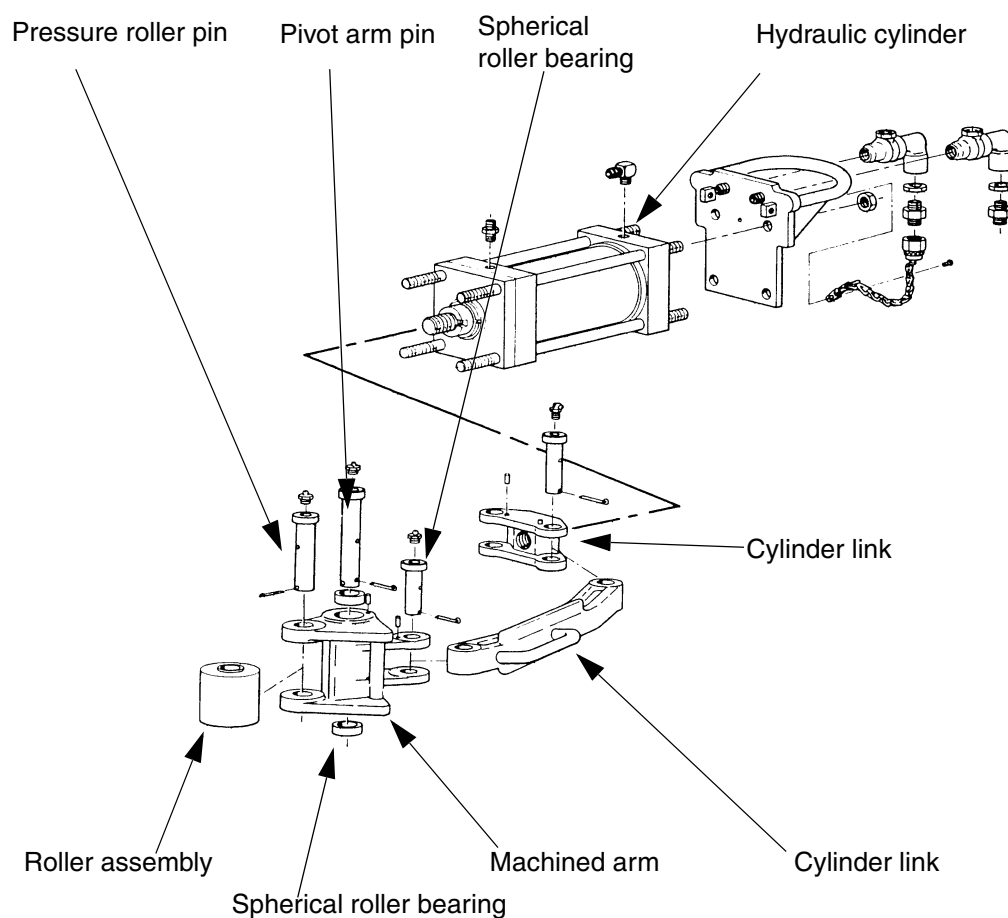

Figure 5. Clamping system
- Remove clamping cylinder from the SSW30 as per figure 5.